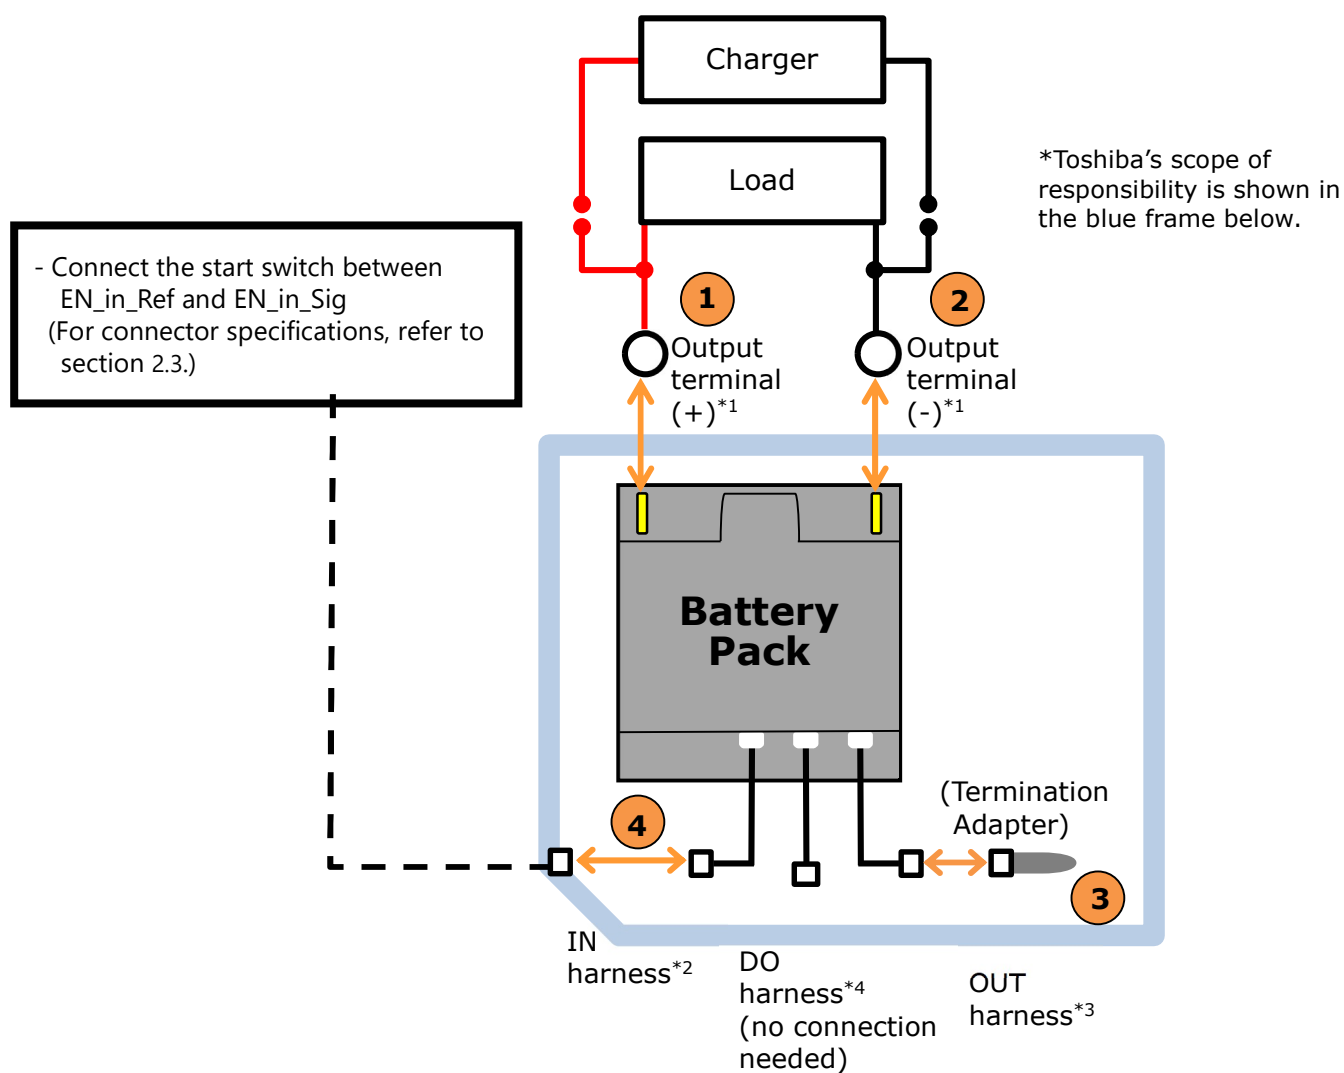

Figure 6-1 Connection Configuration with No CAN Communication or DO Output
Please connect each device from ① to ④ in order as shown in Figure 6-1.